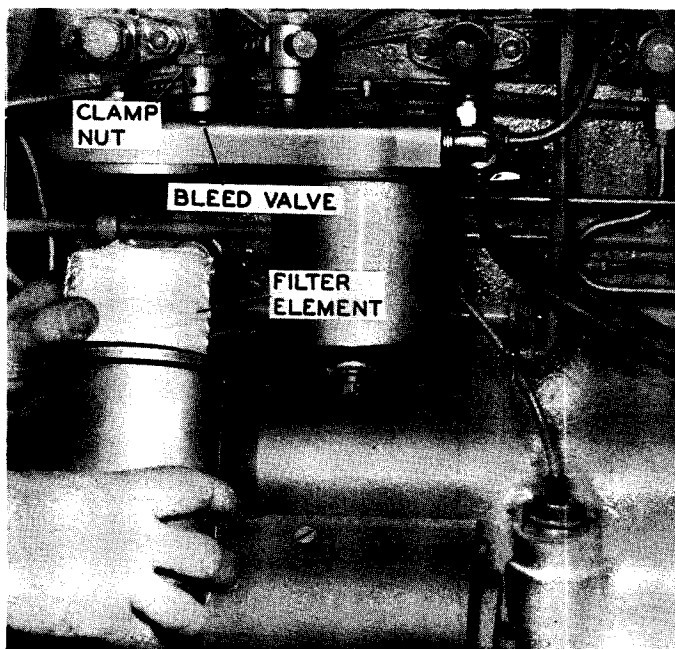

Figure 76. Removing First Stage Filter Element for Replacement
3. Loosen the filter clamp nut on the filter cover until the body can be lowered away from the cover, Figure 76.
4. Lift the contaminated element out of the body and discard it Figure 76.